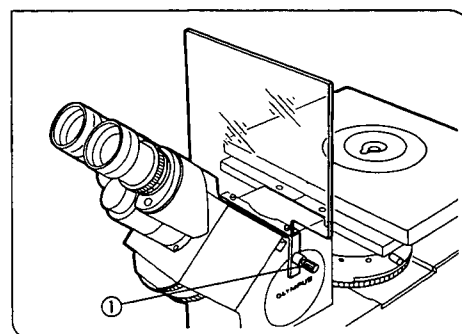

Fig. 18
11 Mounting the UV Protective Shield (Fig. 18)
1. Rotate the clamping knob ① on the UV protective shield to loosen the knob.
2. Place the UV protective shield on the microscope frame's observation tube holder as shown in Fig. 18.